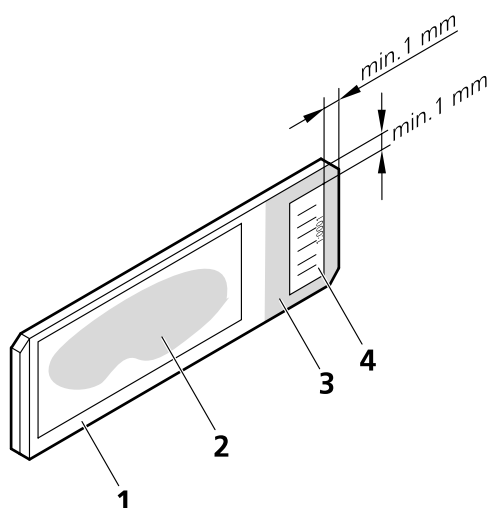

Fig. 4-1 Slide with barcode sticker
- Strip off a barcode label from the barcode roll and stick it wrinkle-free on the colored area (4-1/3) as shown in Fig. 4-1.